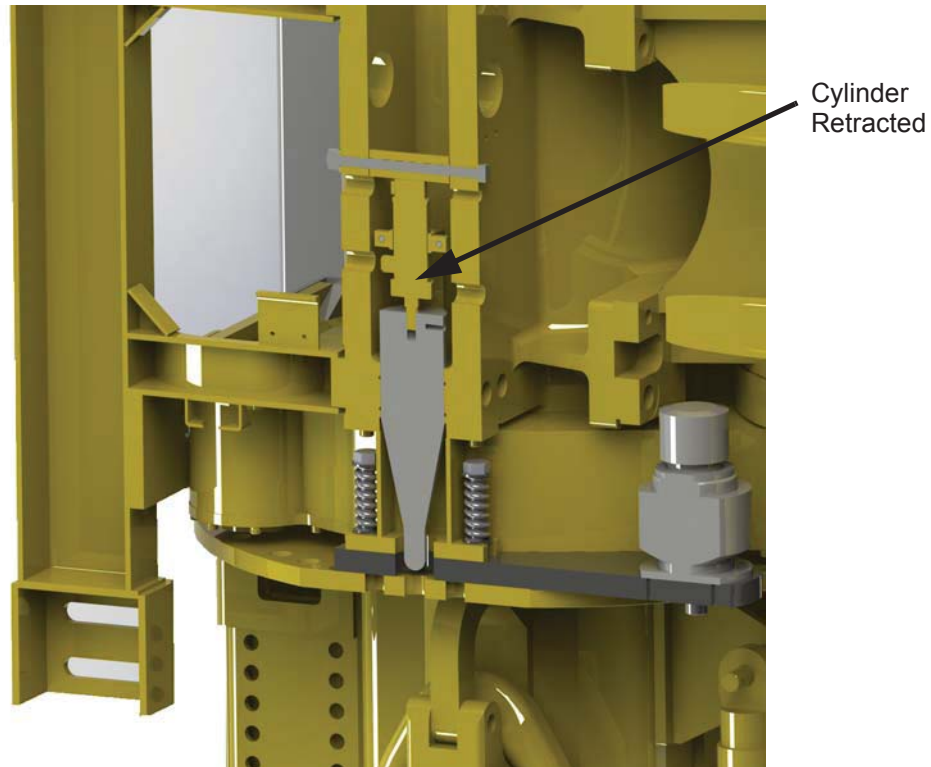

Figure 2: Cylinder retracted.
2. Visually inspect the lock pin. Ensure the pin is in the up position and the cylinder is retracted clear of the handler rotate gear, as shown in Figure 2.